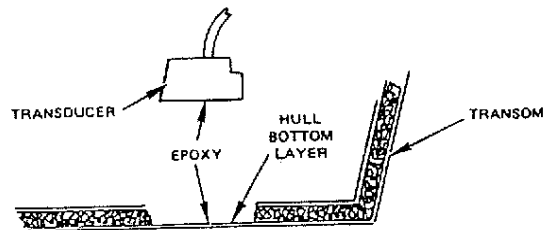

Figure 2-10. Transducer Mounted Inside Hull
2-9 Inside Hull Transducer Mounting (See Figure 2-10)
4. On fiberglass flotation hulls, Figure 2-10, the inner hull can be removed and a reservoir made for transducer placement. After the reservoir is made, check depth-sounder operation before securing the transducer to the hull as described in step 2.